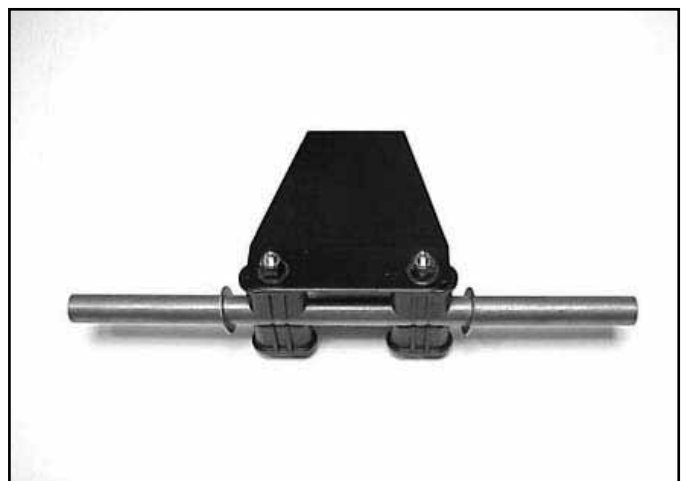

Fig 195
7. Slide flat washers next to guides (Fig. 195).